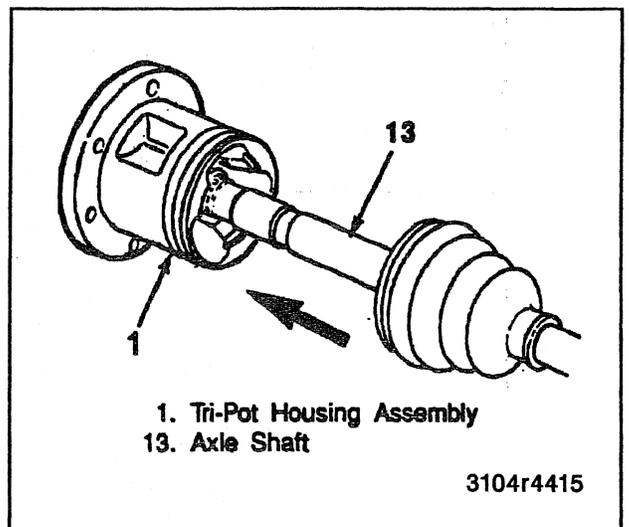
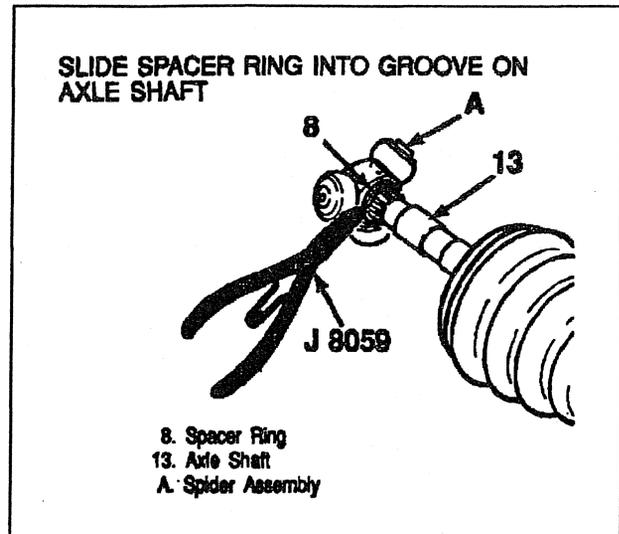
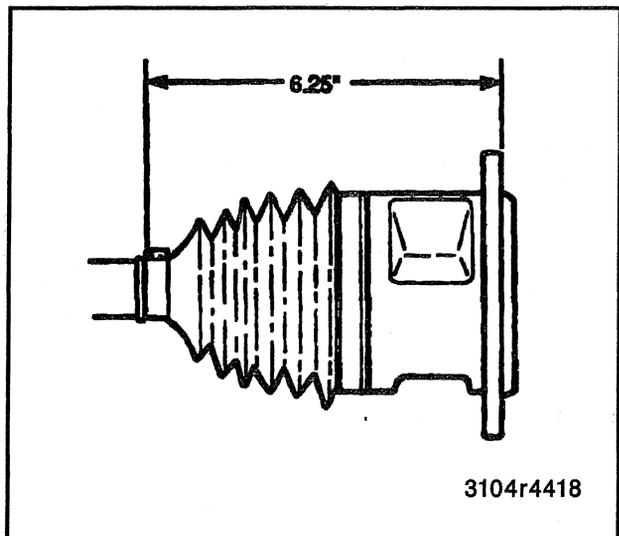

Figure 27—Installing Tripot to Housing
Figure 29—Installing Spider Assembly
Figure 30—Tripot Seal Installation Measurements
3. Spacer ring (8) on the front axle shaft (13) and beyond the second groove as shown in Figure 29.
- Slide the tripot spider assembly against the spacer ring (8) and the shaft (13).
- Be sure that the counterbored face of the tripot spider (3) faces the end of the shaft (13).
4. Shaft retaining ring (2) in the groove of the axle shaft (13) with J 8059.
5. Slide the tripot spider (3) towards the end of the shaft (13) and reseal the spacer ring (8) in the groove on the axle (Figure 29).
- A. Place approximately half of the grease provided in the seal (10) and use the remainder to repack the tripot housing (1).
6. Pinch the swage ring (9) by hand slightly to distort it into an oval shape and slide it onto the large diameter of the seal (12).
7. Slide the tripot housing (1) over the tripot spider assembly on the shaft (13) (Figure 27).
8. Slide the large diameter of the seal (10) with the large swage ring (9) in place over the outside of the tripot housing (1) and locate the seal lip in the housing groove.
9. Position the tripot assembly at the proper vehicle dimension as shown in Figure 30.